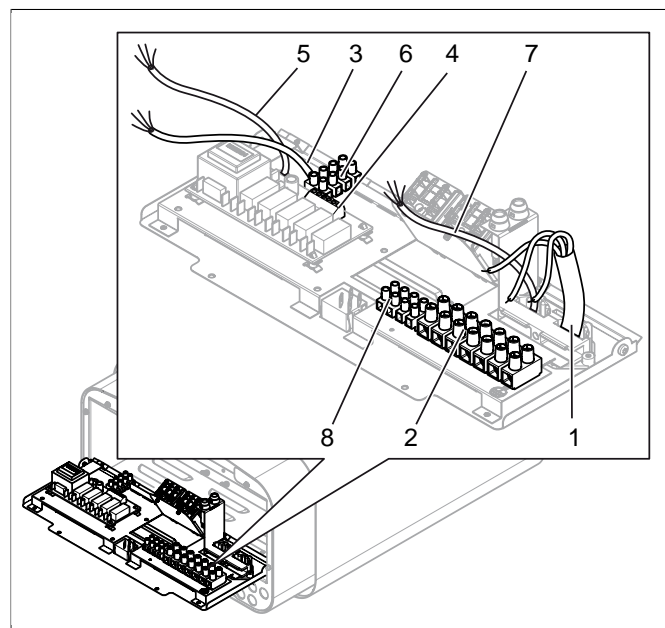
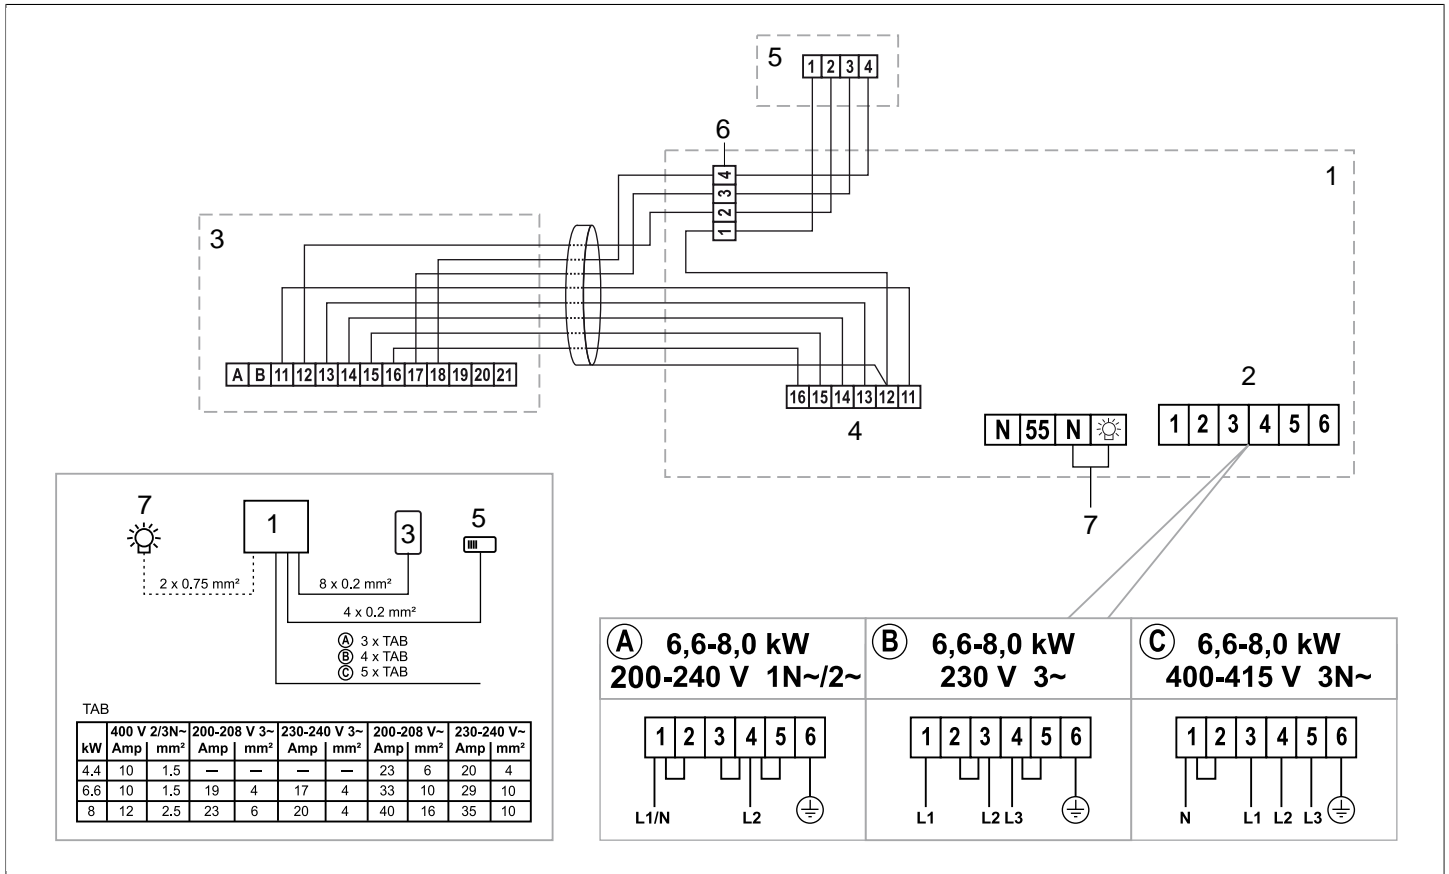

Figure 8: Circuit board
Figure 15: Wiring diagram
Connect the electrical cable (1) to terminal (2) (see **Figure 8**, Page 4) according to wiring diagram (see The section called **Connection/wiring diagram**, Page 6).
4. Connect the control panel cable (3) to terminals (4 and 6) (see **Figure 8**, Page 4) according to the wiring diagram (see The section called **Connection/wiring diagram**, Page 6).
5. Connect the sensor cable (5) to terminal (6) (see The section called **Connection/wiring diagram**, Page 6) according to the wiring diagram (see The section called **Connection/wiring diagram**, Page 6).
6. Connect light cable (if relevant) (7) see **Figure 8**, Page 4 to terminal (8) according to the wiring diagram **Figure 15**, Page 6.
Before connecting to voltages or numbers of phases not listed in the wiring diagram **Figure 15**, Page 6, contact Tylö Customer Service.